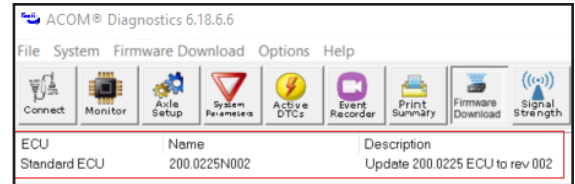

Figure 5 – ECU Window
3. If the TPMS ECU requires updating, there will be an entry displayed in the ECU window as shown in *Figure 5*. If no entry exists, then it is possible the ECU is already updated. Please read the instructions to check if the ECU requires updating.